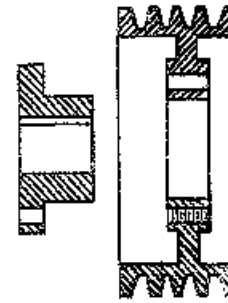

Fig. 2
The R&R 24" Flaking Mill is simply adjusted by the hand wheel (Fig. 2) located on each side of the front of the mill. The rolls can continue to flake as the flake weight is adjusted.
1. Loosen the set screw (Fig 2. Part B)
2. Turn hand wheel desired direction (Fig. 2 Part A)
3. Tighten the set screw (Fig 2. Part B).